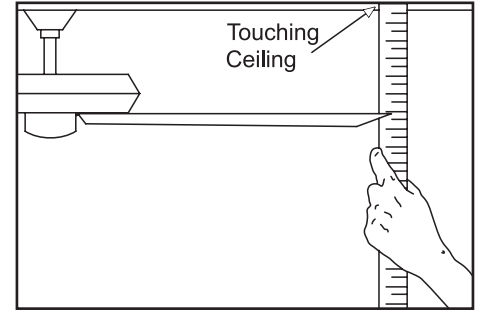

Figure 10
2. Most fan wobble problems are caused when blade levels are unequal. Check this level by selecting a point on the ceiling above the tip of one of the blades. Measure from a point on the center of each blade to the point on the ceiling. Measure this distance as shown in Figure 10. Rotate the fan until the next blade is positioned for measurement. Repeat for each blade. Measurement deviations should be within 1/8". Run the fan for 10 minutes. If the fan continues to wobble please contact Customer Service and a balancing kit will be sent to you at no charge.